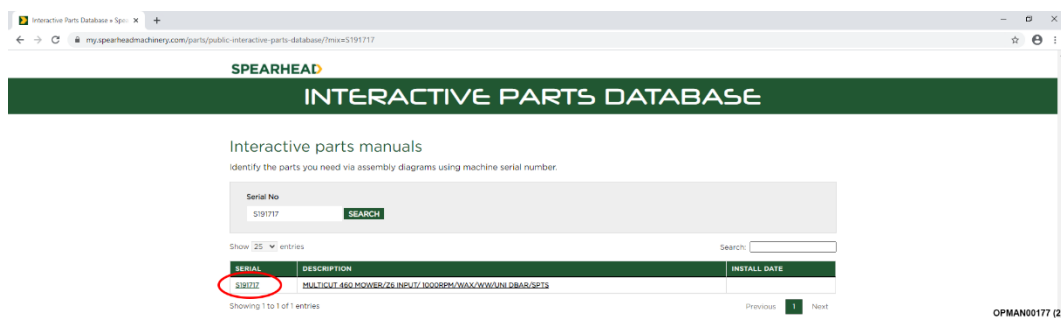

Figure 18 – Click On Serial Number
7.1.1.2 After entering the serial number a specification for the machine will appear. Click on the serial number; see Figure 18.